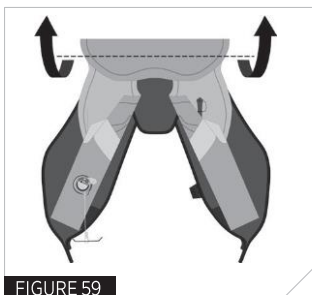

FIGURE 59
10. Create a concertina fold along fold line 10 (Fig 59).